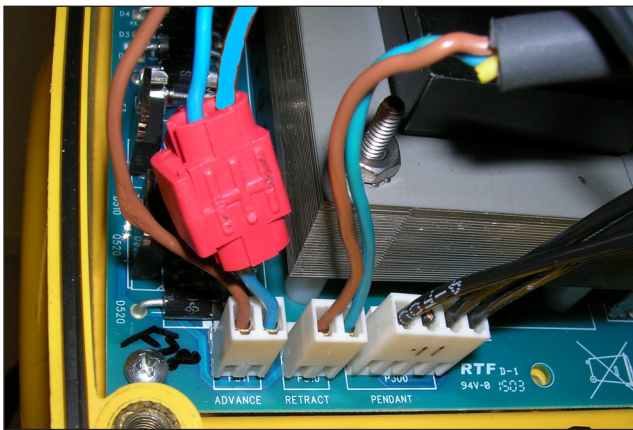

Figure 12, Final Installation
16. Reconnect the *advance* 2-pin connector to the “ADVANCE” terminal on the pump control board. See Figure 12.